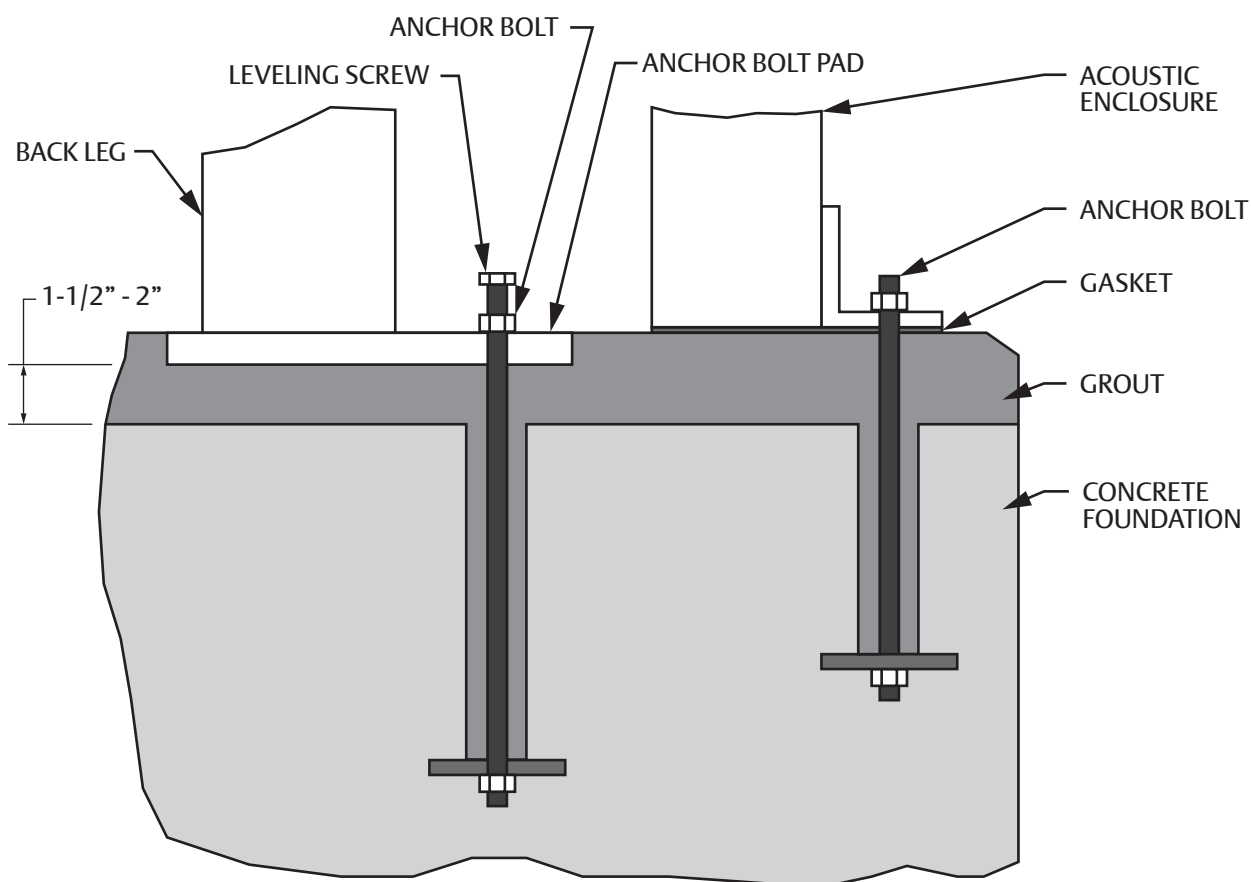

Figure 3-5. Tabletop Bases and Grouting
- Tabletop bases should have grout poured to the top of the anchor bolt pads as shown in Figure 3-5.